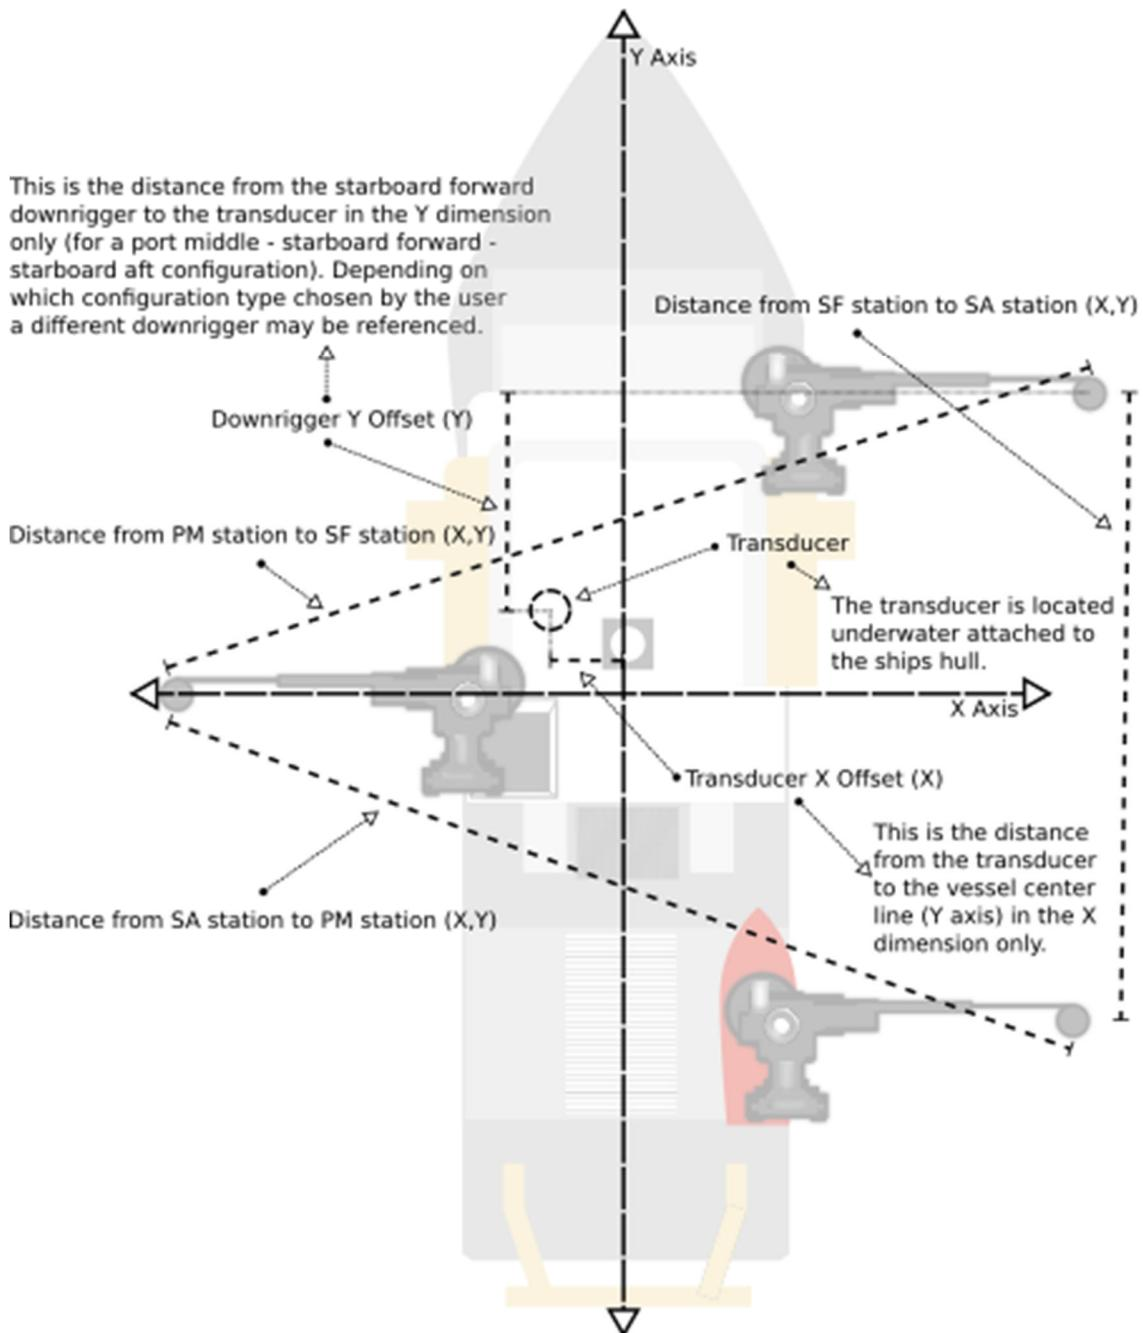

Figure 13: Top view of vessel measurement layout.
A vessel configuration file is a file which contains information regarding the specific geometric configuration associated with the calibration set-up. It provides information regarding the relative positions of each downrigger station, the ships transducer and an approximation of the echo-gram target coordinates (Figure 13). Try to obtain a copy of the vessel schematics if possible.
- j. Select the **"Clean and Build Project"** button in the toolbar to compile and clean the project. To run the application, select the **"Run Project"** toolbar button. (See Figure 13.) This will launch the *EchoCal* GUI application.